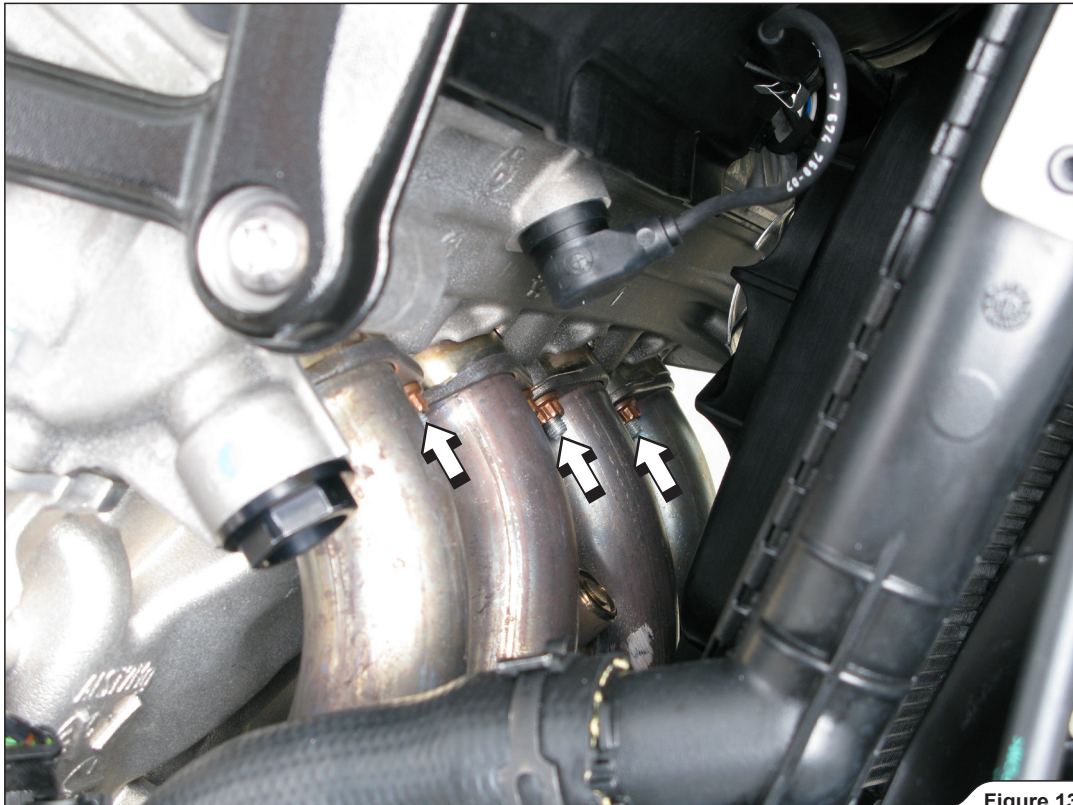

Figure 13
12. Unscrew all nuts from the front header tube flanges (Figure 13).